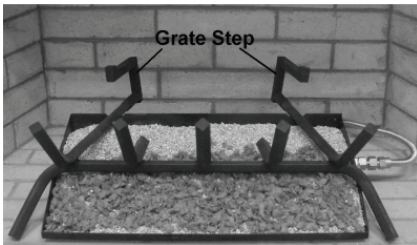

Figure 15 - Installing Grate Steps
1. Slide the two rear log grate steps over the two outer horizontal supports on the grate as shown in Figure 15.